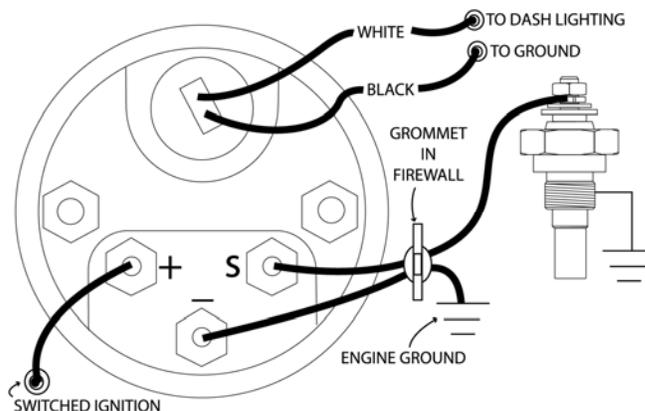

Figure 3
**TEMPERATURE GAUGE WIRING (Figure 3):**
4. Using 18-ga. wire, connect the (S) sender terminal of the gauge to the temperature sender.
5. Connect one (1) of the light wires (WHITE) to the dash lighting circuit or to a +12V switched circuit.